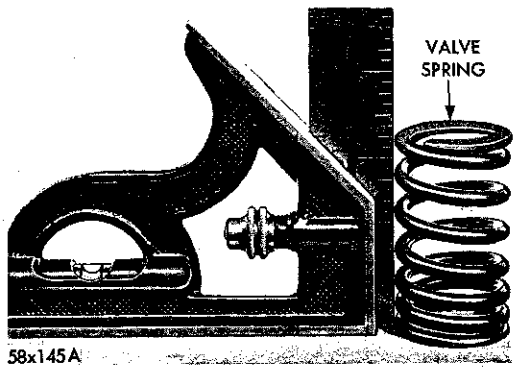

Fig. 13—Inspecting Valve Spring Squareness
(2) Inspect each valve spring for squareness at both ends with a steel square and surface plate, as shown in Figure 13.
(3) If the spring is more than 1/16 inch out of square, install a new spring.